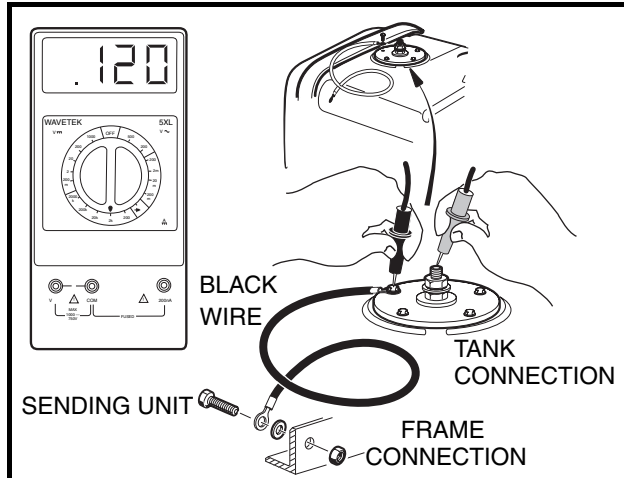

Figure 11-34 Test Fuel Level Sending Unit
4. With a multimeter set to 2k ohms, place the red (+) probe of the multimeter on the center post of the sending unit. Place the black (–) probe on the ground connection of the sending unit (**Figure 11-34, Page 11-33**).